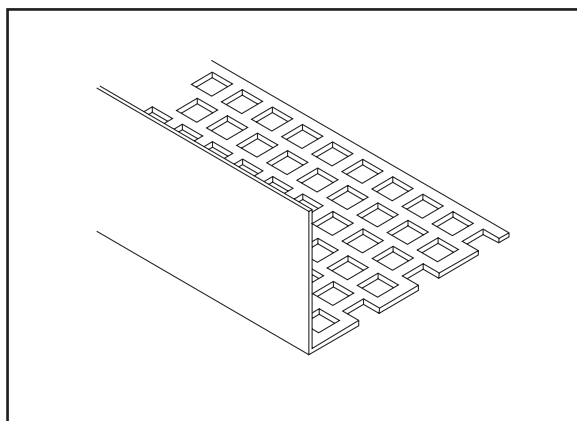

figure 3
The wall structure with Ki-Kern panels meets the performance criteria with regard to the protection against rats and mice as referred to in table 3.114 of the Dutch Building Decree. The condition is that cross profiles must be used between the Ki-Kern panels (see figure 3 on page 12) with regard to wall cladding systems with open joints that are wider than 10 mm.
- Provisions must be made when there are joints that are larger than 10 mm (gauze, roosters, etc.) to ensure that insects and vermin are kept out (this is required in the Netherlands in accordance with the Dutch Building Decree). (See Fig. 3).